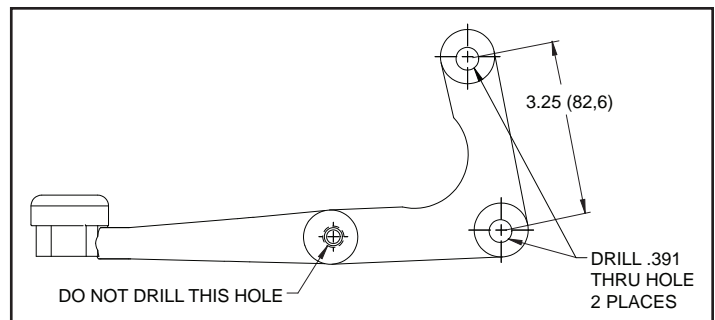

Figure 3. Steering Arm Modification
- To enable installation of the Wilwood caliper bracket, two holes on the steering arm need to be drilled out to .391" diameter, Figure 3